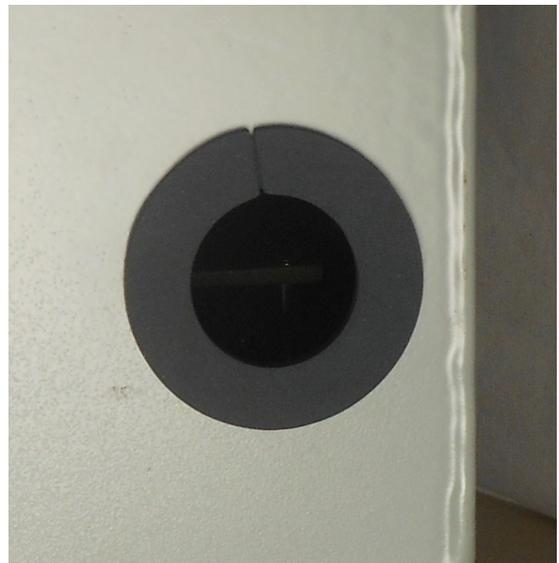

Figure 5. Gasket adhering to bottom of control box.
3. Remove the plastic covering the adhesive side the of gasket and center the gasket over the hole on the outside of the control box (Figure 5).